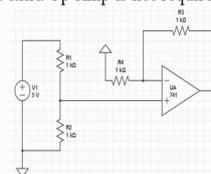

Figure 3
- If the same circuit is connected with a non-inverting amplifier shown below (Figure 3) with a gain of 2, it results in an output voltage of 2 V (gain * input voltage = 2*1 V = 2 V) as expected